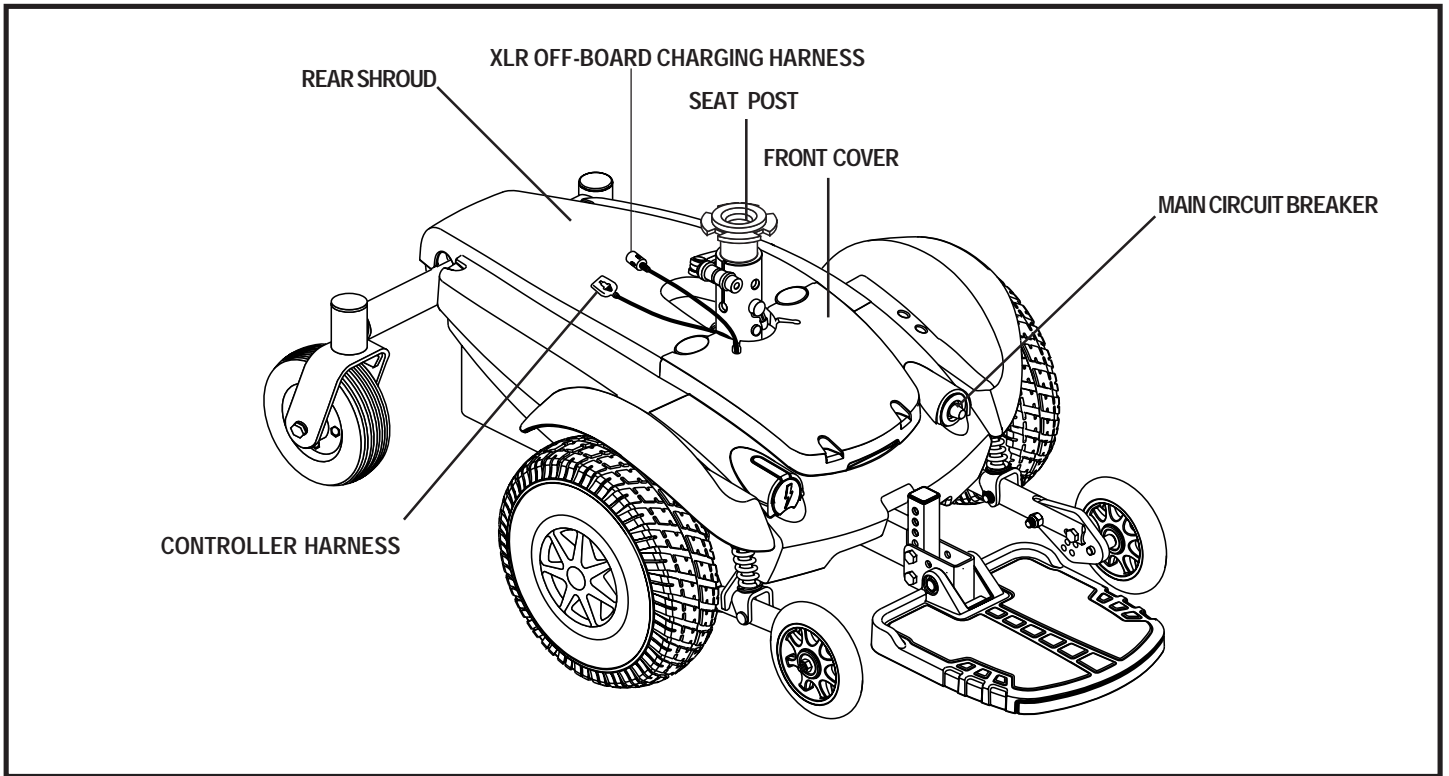

Figure 6. The Jazzy Select Power Base
The electrical components are located either on or inside the power base. The main circuit breaker is located on the front of the power base. The power module is located under the front cover. See figures 6 and 7.
5. Plug the controller cable into the connector on the power base. See figure 6 or 7.